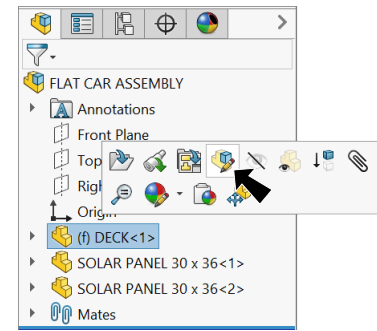

Fig. 19
Step 1. Click **Deck**  component in the Feature Manager and click **Edit Part**  on the context toolbar, **Fig. 19**.